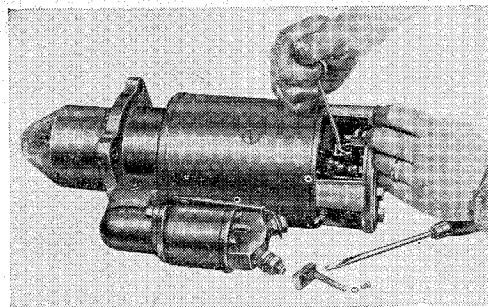

Fig. 87.
9. Using a piece of wire of approximately 3 mm or .118" thickness shaped to a long "L", slightly lift the pressure springs of the brushes and remove the brushes (see Fig. 87).